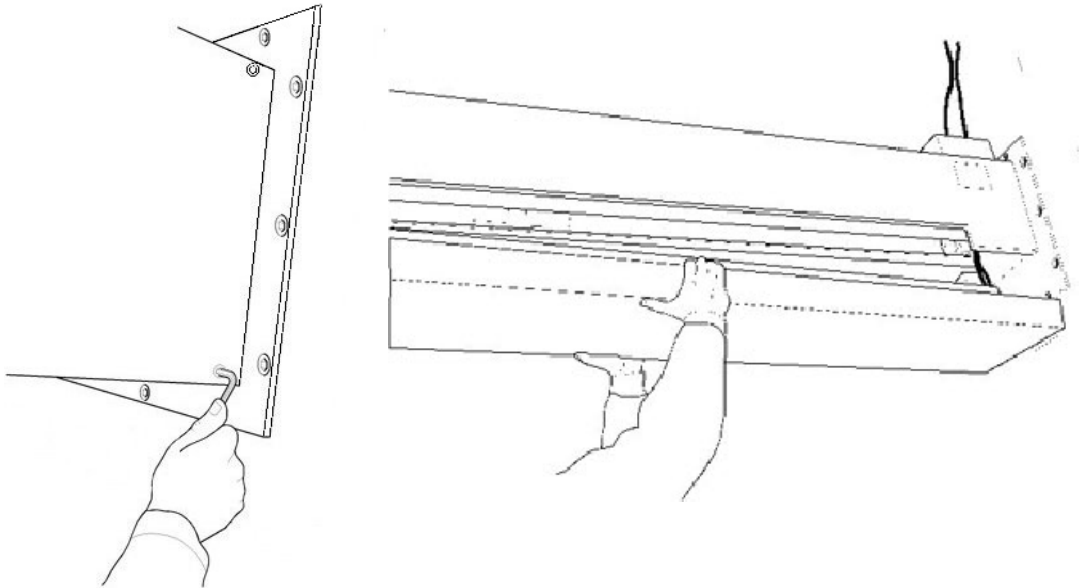

Fig. 5-2 Removing upper safety guard
4. Unbolt the upper safety guard taking care to remove it first from the base and lifting as shown in Figure 5-2.